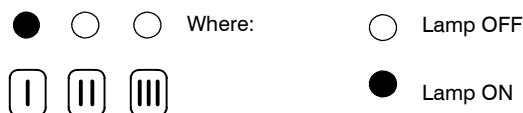

Fig. 8
- 8 The lamps F should give the indication as in Fig. 8 (useful output, first step). If not, press the reset button repeatedly to obtain it.